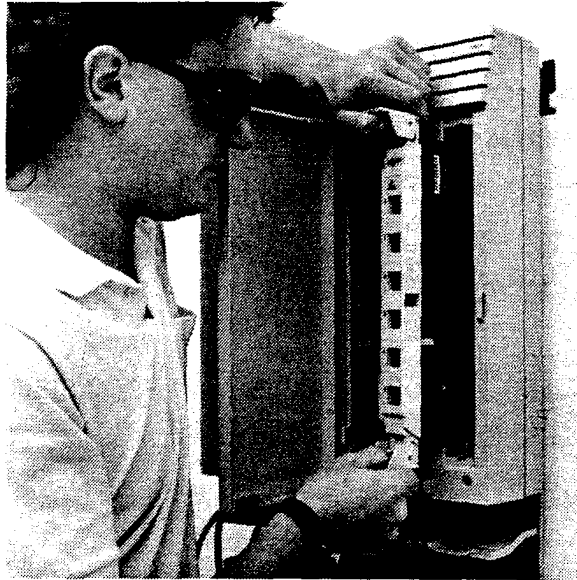

Figure 3.15 - Installing Six-port Expansion Cartridge
4. While holding the latches open, insert the Expansion cartridge, as shown in Figure 3.15, in the appropriate slot and close the latches at the same moment to align the cartridge properly.